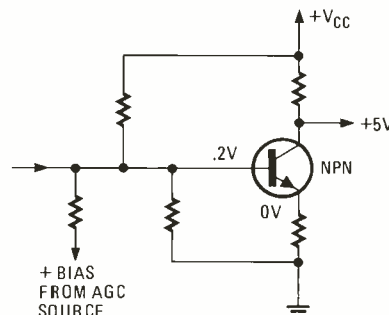

FIG. 14
10. **Correct answer is "a."** Reverse AGC would reduce the emitter current by lowering the base control voltage. Forward AGC would reduce the amplifier current by increasing the control voltage past the linear portion of the curve to a point where gain is reduced as collector current is increased. See Fig. 14.